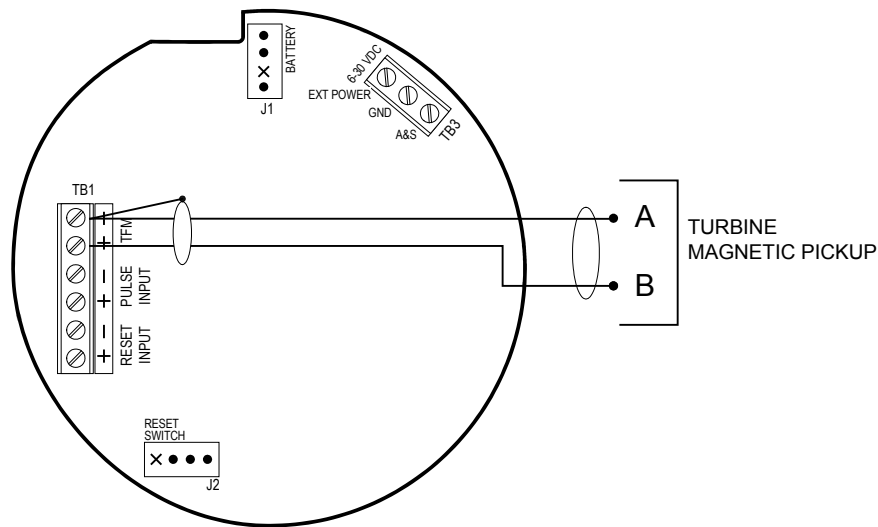
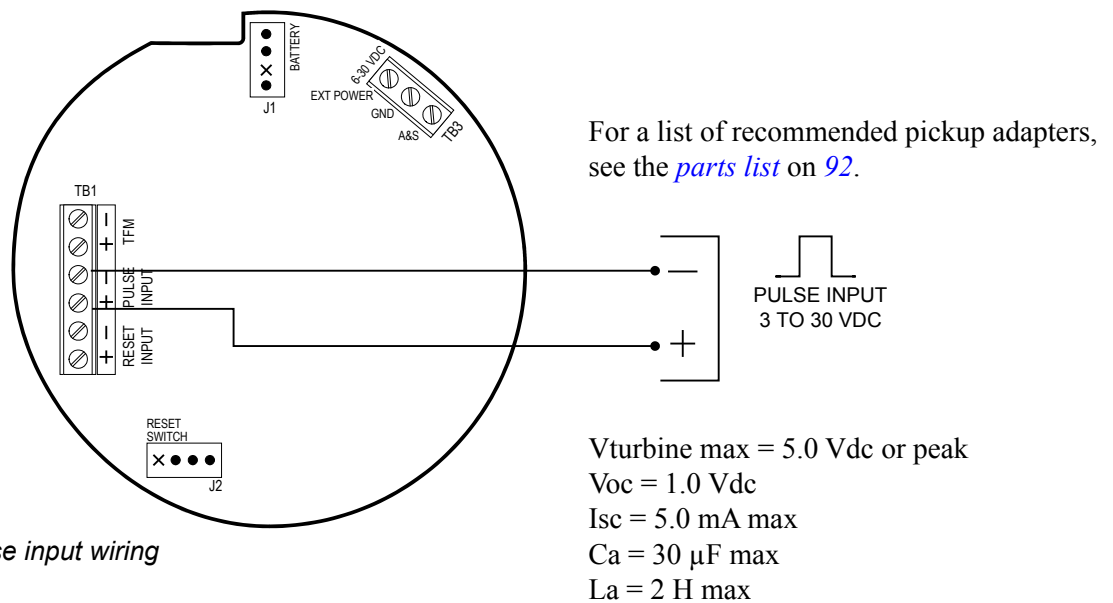

Figure 2.3—Flow meter input wiring
Figure 2.4—Pulse input wiring
3. Connect the flow meter or pulse input wiring to terminal block TB1. See *Figure 2.3* or *Figure 2.4, page 19*.